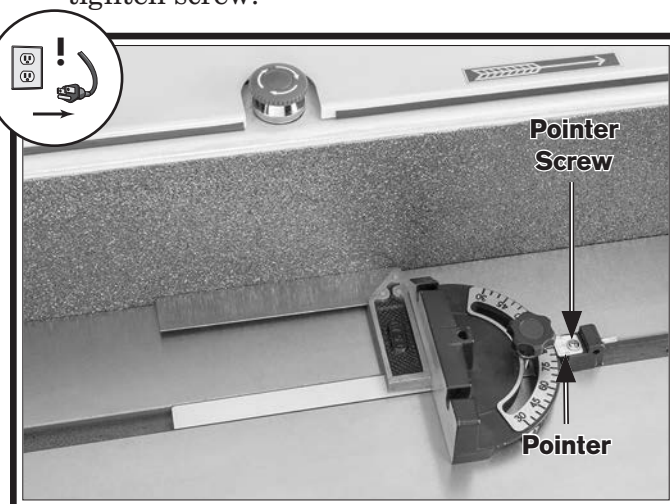

Figure 84. Miter scale pointer components.
6. Loosen pointer Phillips head screw (see **Figure 84**), adjust pointer to 0°, then tighten screw.